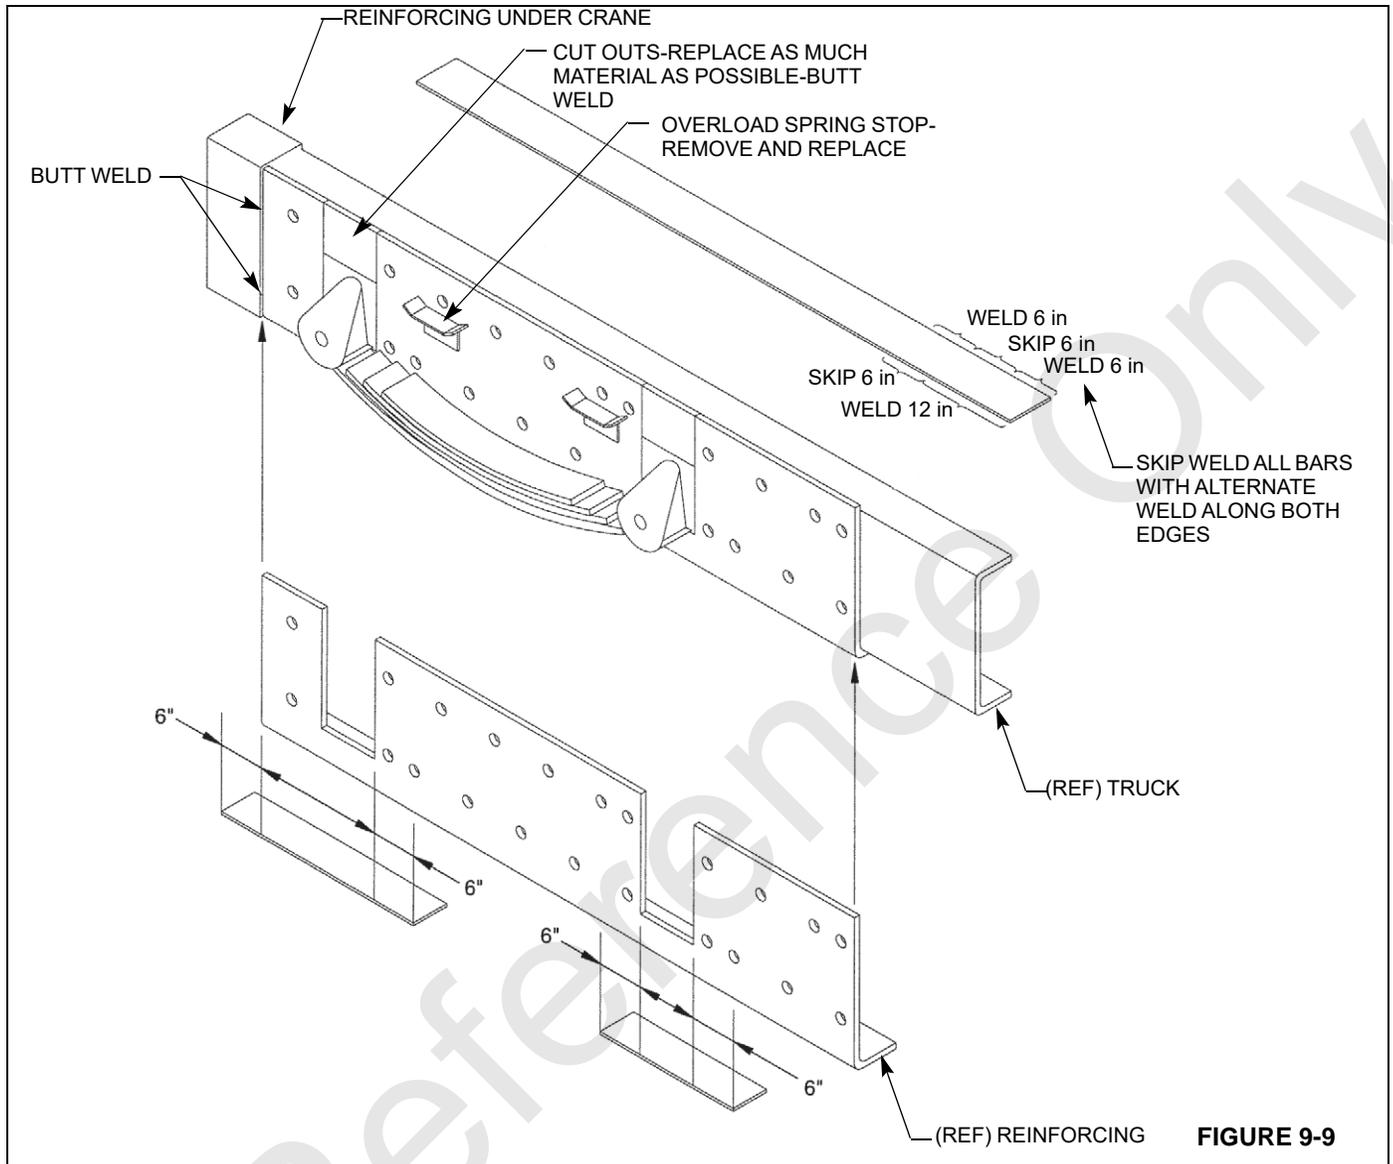

FIGURE 9-9
6. If the frame through the rear suspension doesn't meet minimum specifications for RBM and section modulus as shown on *Truck Frame Strength*, page 9-8 table, it can be reinforced by adding an angle type of reinforcing as in Figure 9-9.